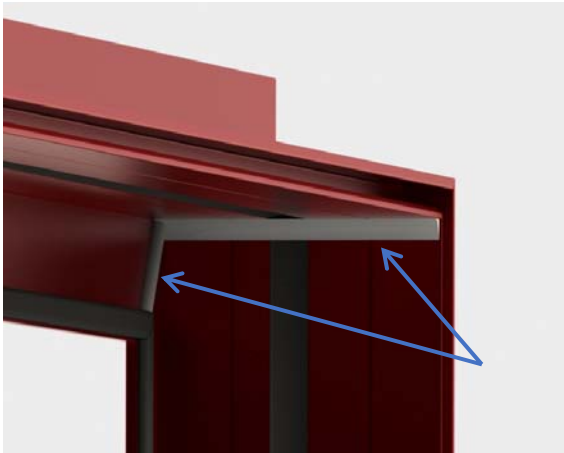

Fig. 10
- B. Apply self-leveling sealant to both corners inside where the jamb and head receptors come together covering all seams. (Fig. 10)